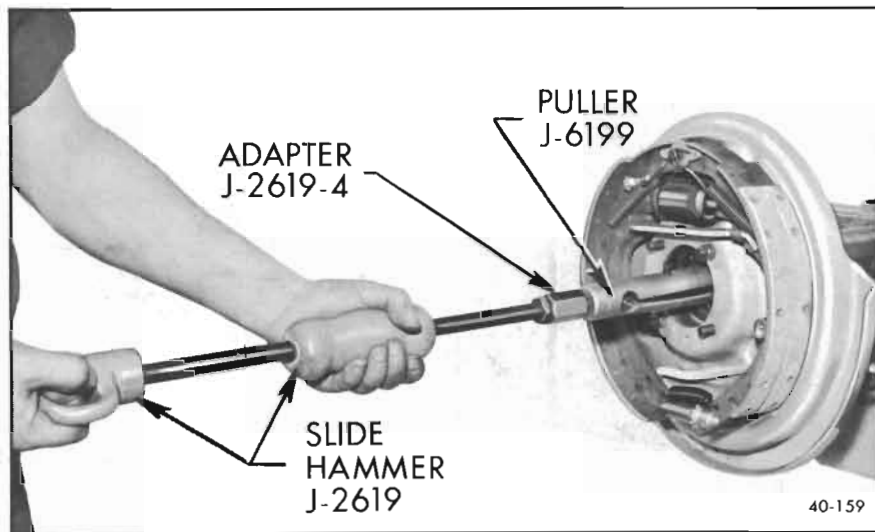

Figure 40-159—Removing Axle Shaft Oil Seal
1. To remove oil seal, insert Puller J-6199 just through seal and expand. Pull seal with a slide hammer. See Figure 40-159.